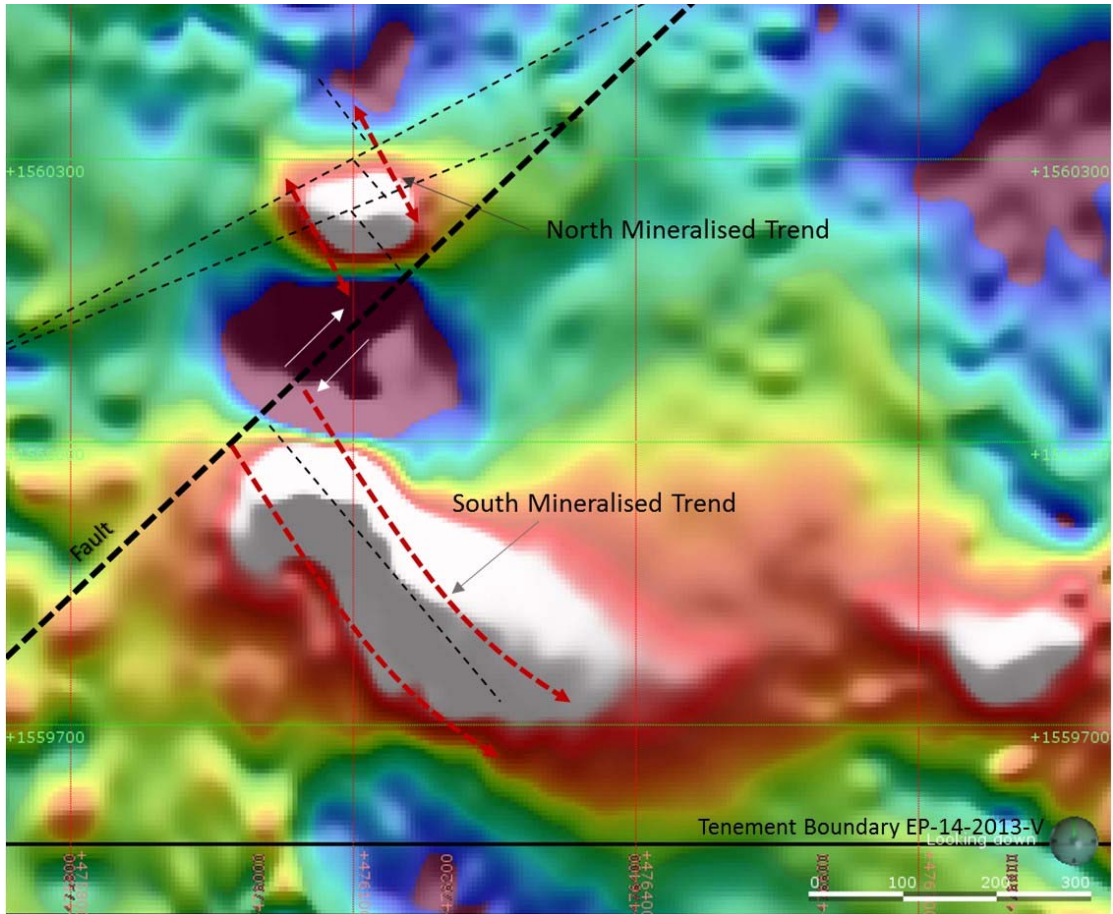

Figure 2. Interpretation of the North Mineralised Zone magnetite skarn faulted continuation of the South Mineralised Zone
The strike and orientation of modelled magnetite skarn is in strong agreement with the South Mineralised Zone. Stratigraphy and fault zones of the North Mineralised Zone also correlate well with the South Mineralised Zone inferring an offset continuation of the South Mineralised Zone (Figure 2). Geology intersected from multiple completed (assays awaiting) drill holes on section are in agreement with this interpretation.
**The revised interpretation opens up the potential for strike extensions and offset continuation of oxide, chalcocite mineralisation** (Figure 2). Magnetite skarn hosted within marble correlates with deeper mineralisation in the Southern Mineralised zone and is observed to be at a shallow position. The revised model is consistent with the geology of the Southern Mineralised Zone with drilling beyond the magnetic model planned.